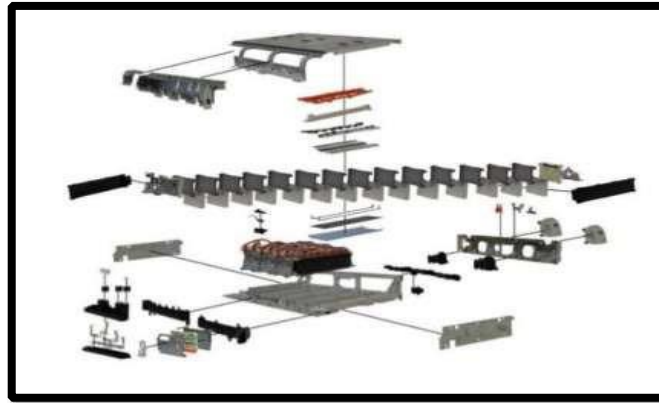

Figure 1
- C3.1.1** All Batteries shall be in compliance with the AIS 048 or other similar standards (Refer Part H , Article 1). The battery pack which stores the tractive system energy will be built into accumulator segments and must be enclosed in (an) electrically insulated accumulator container(s). Refer figure 1,2,3 mentioned below.